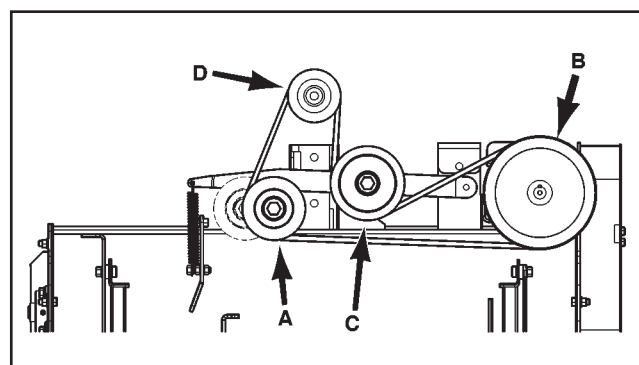

FIGURE 32 Main Drive Belt Removal - Pulley Locations
4. Remove the belt from the pulleys in the following order (See Figure 32).